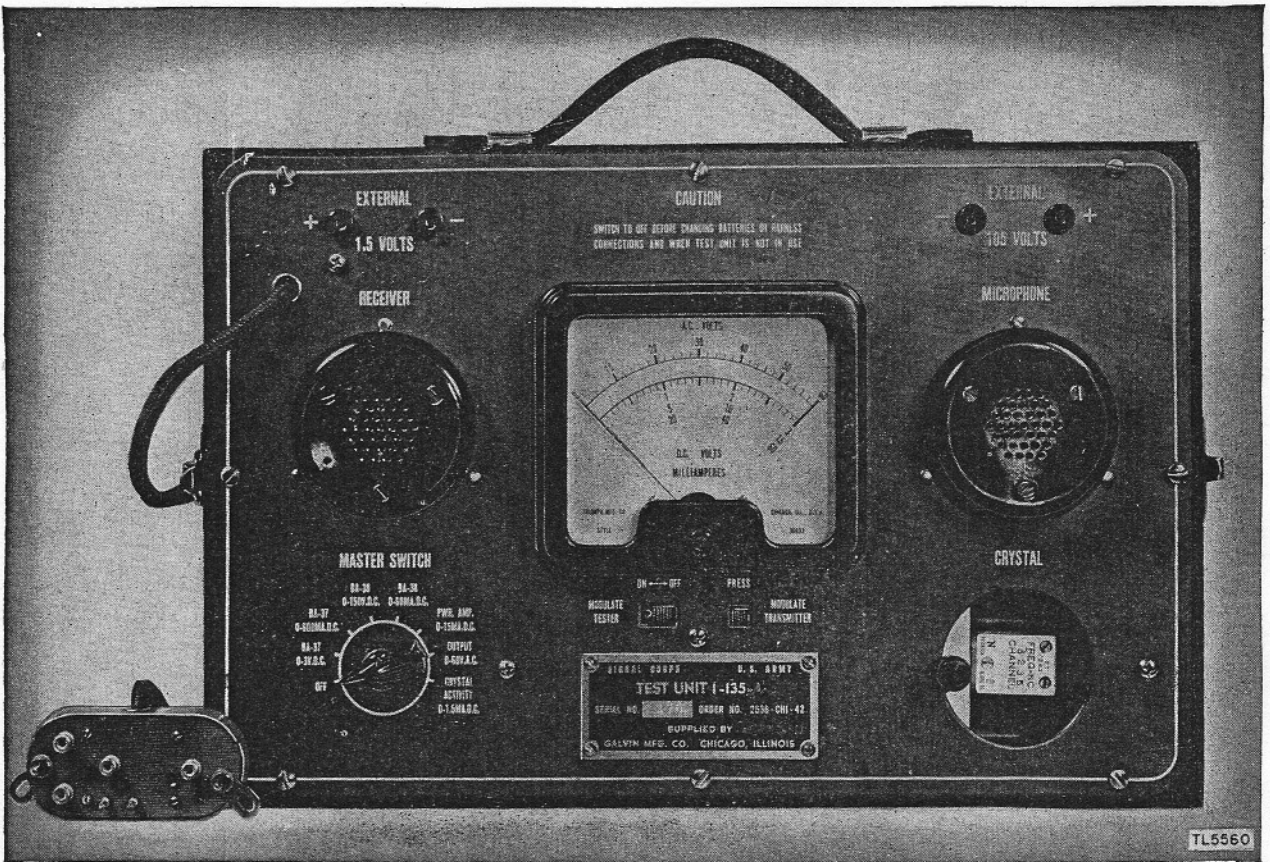

Figure 62. Test Unit I-135-().
Test Unit I-135-() contains a multirange voltmeter and milliammeter, a crystal tester, and an r-f and a-f signal source. (See fig. 62.) The test unit is used for measuring battery voltage and current, r-f amplifier plate current audio output voltage, and crystal activity. In addition, it supplies a modulated r-f signal source for the test, alignment, and pre-setting of the receiver and an a-f signal source for determining the modulation capability of the transmitter. It combines in one case all the meters and additional apparatus required for use with Test Equipment IE-15-A. (See par. 76.)
e. The positions of the MASTER SWITCH of the test unit (fig. 62) are as follows:
(1) OFF, in which position the external and internal batteries of Test Unit I-135-() are disconnected from the test unit and the radio set chassis. The radio set and oscillator are in all other positions of the MASTER SWITCH.
(2) BA-37 0-3V. D. C., in which position the meter indicates the voltage of the external A battery or Battery BA-37.
(5) BA-38 0-60 MA. D. C., in which position the meter indicates the current drain of the external B battery or Battery BA-38.
(6) PWR. AMP. 0-15 MA. D. C., in which position the meter indicates the r-f power-amplifier plate current when the radio set is in the transmit position.
(7) OUTPUT 0-60 V. A. C., in which position the meter indicates the audio output voltage of the receiver circuit. (The meter is connected across the test unit earphone.)
(8) CRYSTAL ACTIVITY 0-1.5 MA. D. C.,